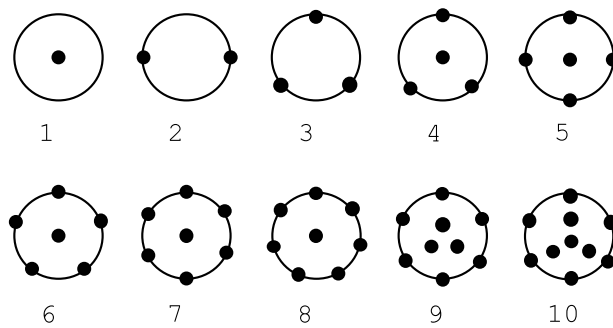

Figure 3.10: Predefined configurations for 1 through 10 sensor rays
- `numberOfRays`: number of rays cast by the sensor. The number of rays must be equal to, or greater than 1 for "infra-red" and "sonar" sensors. `numberOfRays` must be exactly 1 for "laser" sensors. If this number is larger than 1, then several rays are used and the sensor measurement value is computed from the weighted average of the individual rays' responses. By using multiple rays, a more accurate model of the physical infra-red or ultrasound sensor can be obtained. The sensor rays are distributed inside 3D-cones whose opening angles can be tuned through the `aperture` parameter. See figure 3.10 for the ray distributions from one to ten rays. The spacial distribution of the rays is as much as possible uniform and has a left/right symmetry. There is no upper limit on the number of rays; however, Webots' performance drops as the number of rays increases.